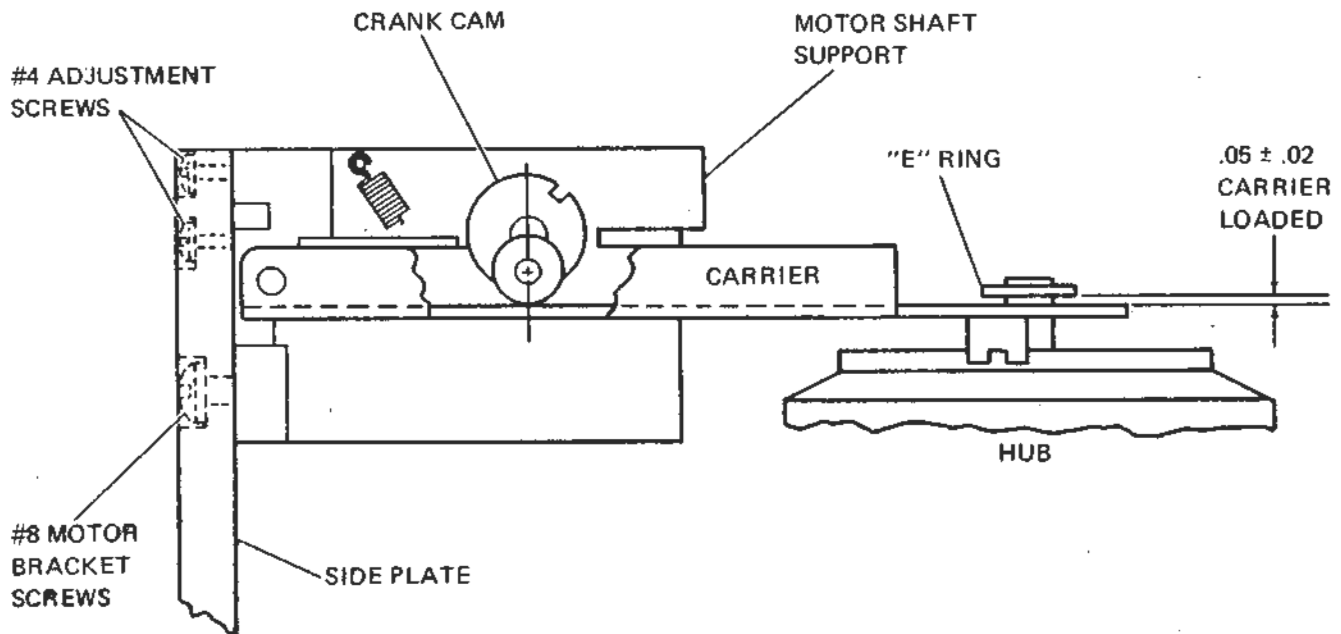

Figure 2-12. Crank Cam Alignment Check
- c. Observe the gap between the E ring which holds the cone assembly to the carrier and the corresponding carrier surface. (Figure 2-12.)